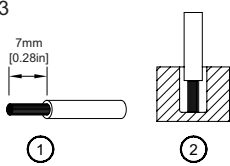

Figure 4
(1)	0.82-8.40	18-8	0.92	8.1
(2)	3.30-5.30	12-10	0.92	8.1
To secure reliable and shock proof connections, the stripping length should be 7 mm [0.28 in] (see Fig. 4 (1)).
Please ensure that wires are fully inserted into the connecting terminals as shown in Fig. 4 (2).